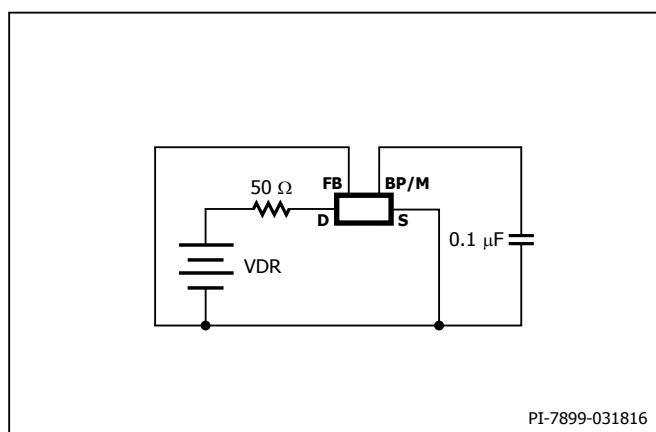

Figure 14. LinkSwitch-XT2 Minimum On-Time Test Circuit.
- Measured using circuit in Figure 14 with 50  $\Omega$  drain pull-up. The width of the drain pulse is measured as the time from  $V_{FALL} = 42\text{ V}$  to  $V_{RISE} = 40\text{ V}$  ( $V_{DR} = 50\text{ V}$ ).